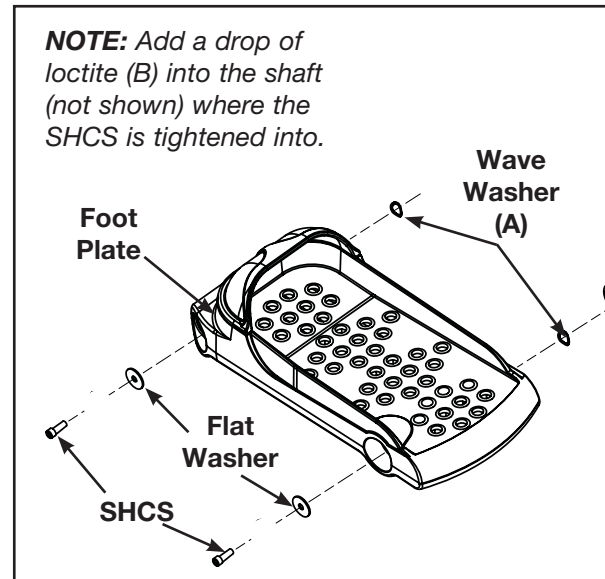

Figure 1 (right foot assembly)
A. Install one wave washer (A) onto each foot plate shaft as shown in Figure 1.
C. Place a drop of loctite (B) on one of the SHCS. Place another drop of loctite in the shaft (where the SHCS will be tightened into).